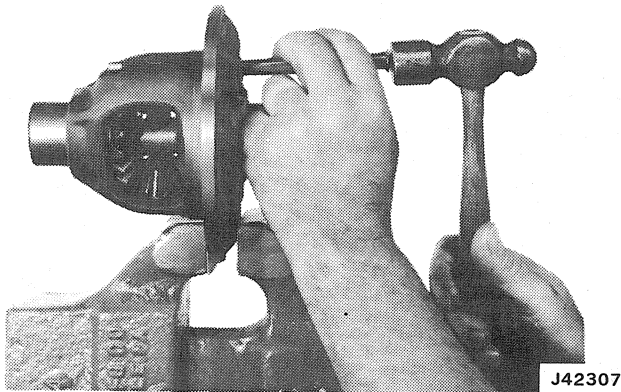

Fig. 2F-48 Pinion Mate Shaft Lockpin Removal
(12) Mount dial indicator on axle housing (fig. 2F-48). Zero indicator and be sure indicator stylus contacts one side of opening in housing.
(13) Spread housing no more than 0.020 inch (0.50 mm) using Tool J-25102. Measure amount housing is spread using dial indicator mounted previously.